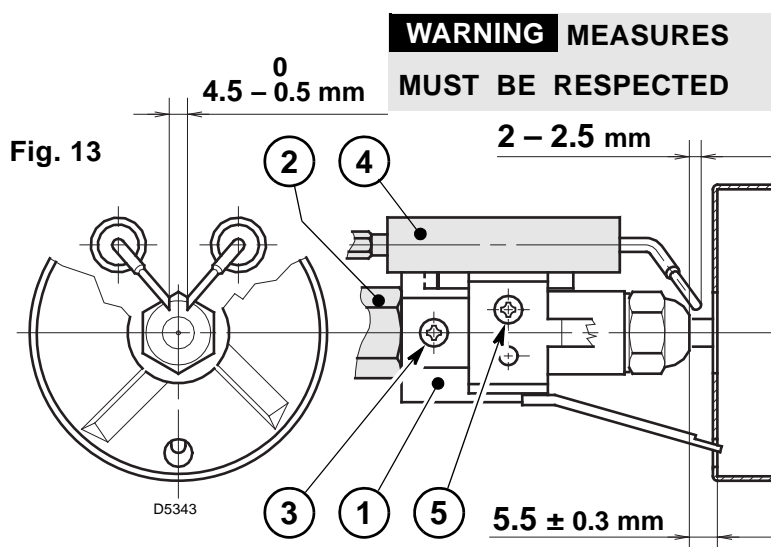

Fig. 13
- Hook the burner to the flange (1), by removing the blast tube (2) after loosing the fixing screws (3).
- Remove the small cables (4) from the electrodes and the diffuser disc-holder assembly (5) from the nozzle-holder assembly after loosing its fixing screw (3, fig. 13, page 7).
- **Screw the nozzle (6) correctly and tighten it as shown in the figure.**
- Withdraw the small cables (4) from the electrodes, remove the diffuser disc-holder assembly (9) from the nozzle-holder assembly (1) after loosening screw (3, fig. 13).
- **Screw the nozzle (10) correctly and tighten it as shown in figure.**
## 4.2 ELECTRODES ADJUSTMENT (see fig. 13)